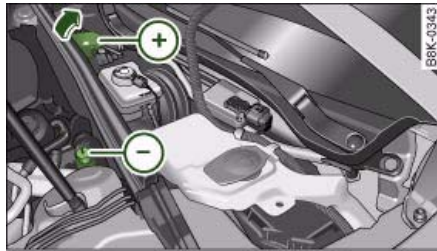

Fig. 278 Engine compartment: Terminals for jump leads and battery charger
The jump-start terminals are located in the engine compartment ⇒ fig. 278.
- Open the red cap on the positive terminal ⇒ fig. 278.